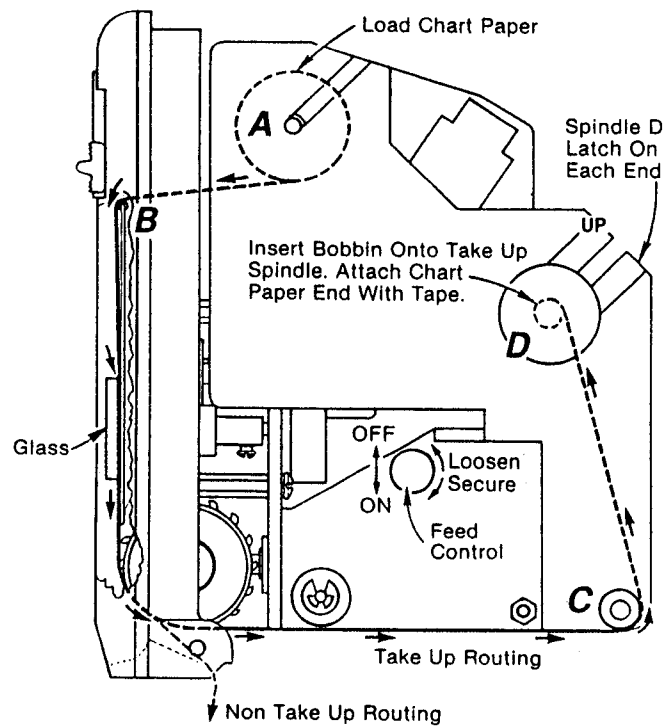

Fig. 7
- a) To insert chart paper, place recorder in horizontal position and press the release button in the direction shown in fig. 6. Raise the recorder mechanism to a vertical position until it locks. Remove chart spindle (A) (see fig. 7) and place chart roll on spindle. Remove tape on roll and retain tape for securing chart on take-up spindle (D). Unroll about 12" to 15" and route paper over top edge of scale plate (B) underneath glass, over the sprocket wheels, to the rear and over the idle roller (C) up to the cardboard bobbin mounted on take-up spindle (D). Secure edge of chart to bobbin with tape. Make sure the sprocket holes in the paper engage the sprocket wheels. Be sure that feed control is tight and in the right position. The word "on" must be visible. Press in the idle roller extension (C) to allow the recording mechanism to move back down into case and lock into position. Replace cover by positioning the "U" bend onto the projections above the chart well opening. Make sure chart paper is not binding with the cover in place. For "non-take-up" recording, route chart through bottom slot as shown in fig. 7.
b) To remove chart from take-up spindle (D), move the latches away from the take-up spindle. Turn knurled knob on spindle (D) until the slot in the take-up drive pulley at the opposite end of the spindle is lined up with the slot in the side frame of the recorder. Slide the spindle and chart up and out of the slots in the side frames of the recorder.